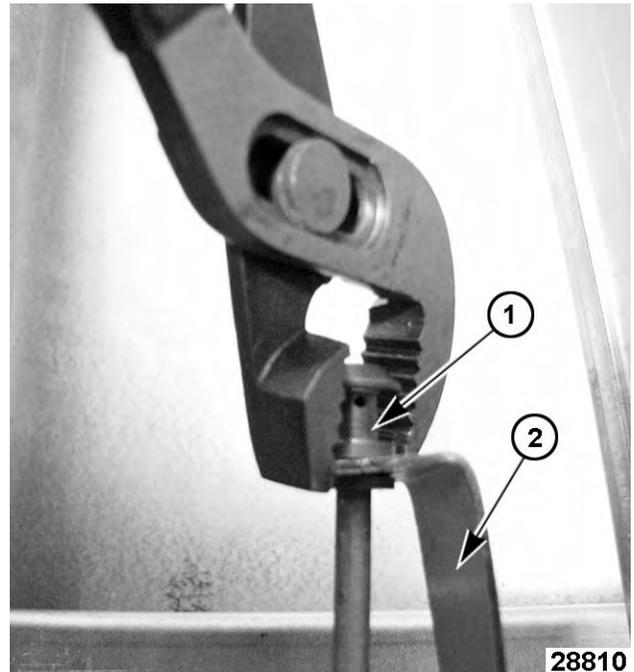

Fig. 73
5. Remove pilot tube assembly (1, Fig. 73) from pilot bracket (2, Fig. 73). Use pliers to separate as needed.